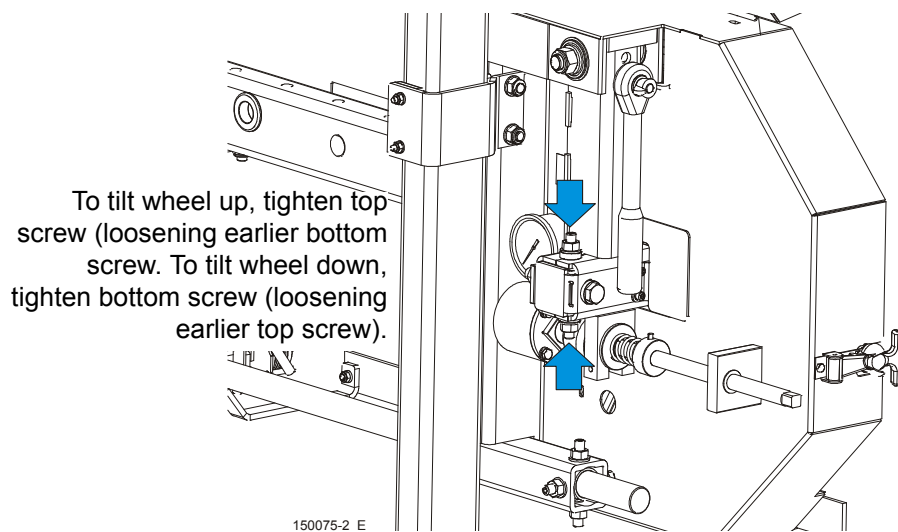

FIG. 2-5
- If the two measurements differ by more than 1,5 mm, adjust the vertical tilt of the idle-side blade wheel. See Figure 2-5.
See Figure 2-5. To tilt the idle-side blade wheel up, loosen the bottom adjustment screw 1/2 turn. Loosen the nut on the top adjustment screw and tighten the top adjustment screw. Tighten the top and bottom nuts.